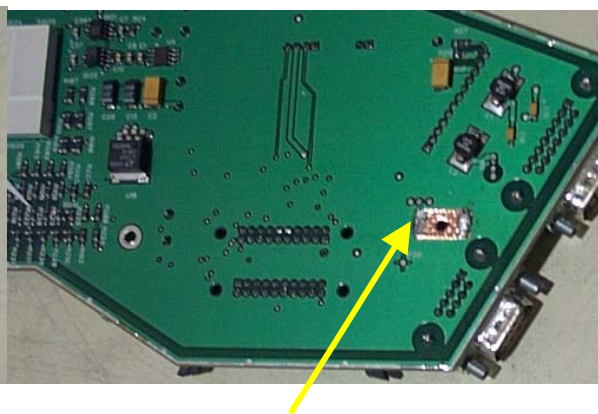

**Figure 3. Locate Screw Hole and Remove Board Coating**
7. Refer to Figure 3. On the front of the display board, locate the screw hole near the connectors as shown. *Carefully* remove the board coating by scraping it away with the blunt tip of a flat blade screwdriver.
8. Refer to Figure 3. Cut a piece of copper tape to fit inside of the scraped away area. It should be sized to leave sufficient room for the application of solder.